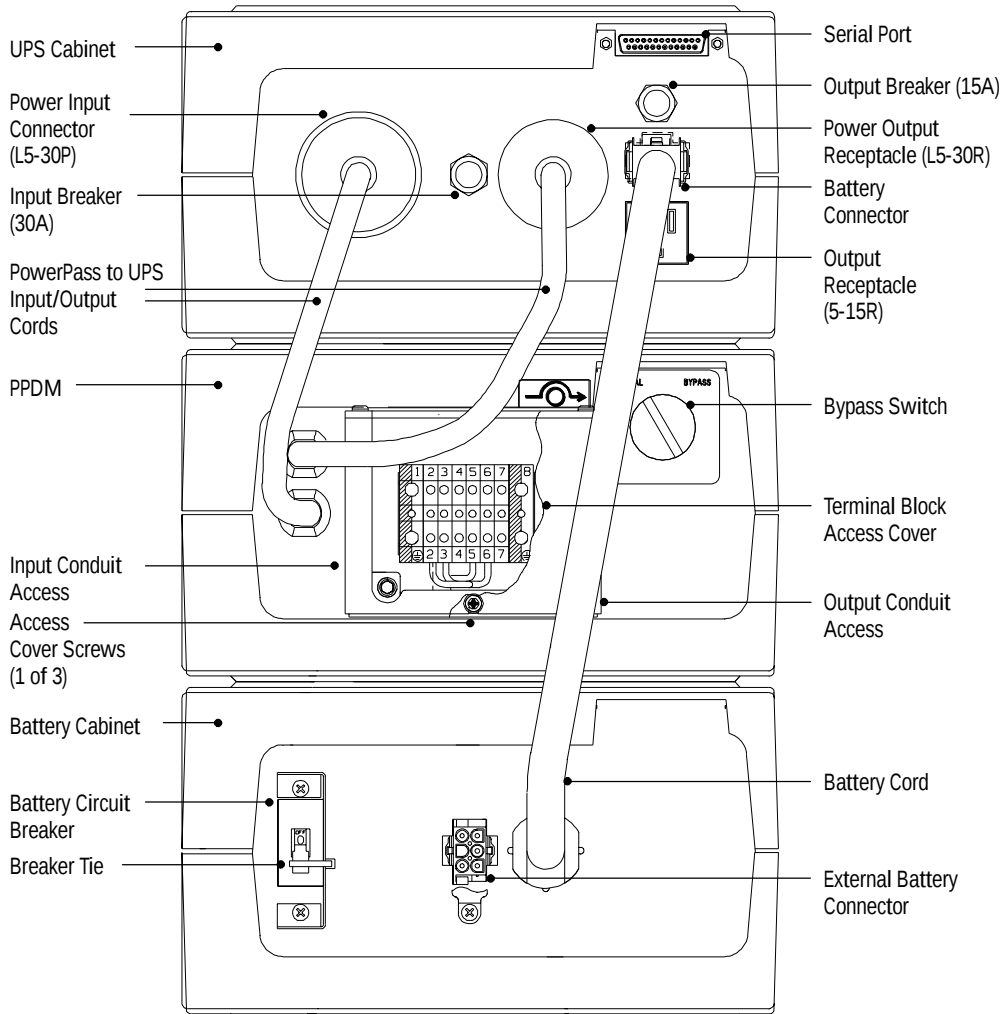

Figure 7. UPS with Hardwired PPDM Rear Panel
9. Remove the three screws on the terminal block access cover with a Phillips screwdriver and remove the cover (see Figure 7).
10. Connect standard half-inch conduit through the terminal access box (see Figure 7) and hardwire to the terminal block.